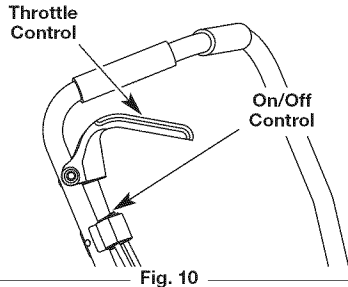

Fig. 10
NOTE: There is no need to turn the unit on. The On/Off Control is in the **ON (I)** position at all times (Fig. 10).
2. Press and hold the On/Off Control in the **OFF (O)** position until the unit comes to a complete stop. (Fig. 10)